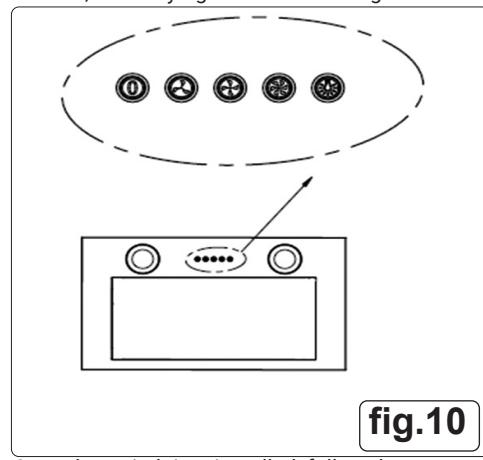

fig.10
- Align the switch button with the switch hole on the panel, press the step of the switch box onto the installing holes on both sides of the switch bracket, and fully tighten them. See fig.10.